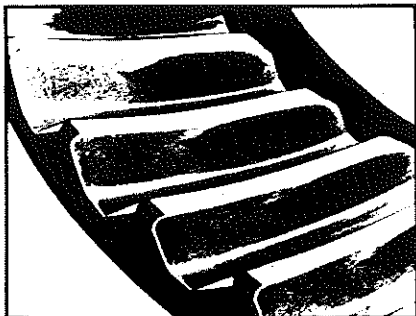

Figure 117A
4. Look at the contact patterns on the ring gear teeth. Compare the patterns to **Figures 117A or B, 118A or B and 119A or B.**
New Conventional and Generoid Gear Sets - toward the toe of the gear tooth and in the center between the top and bottom of the tooth. See **Figures 117A and 117B.**